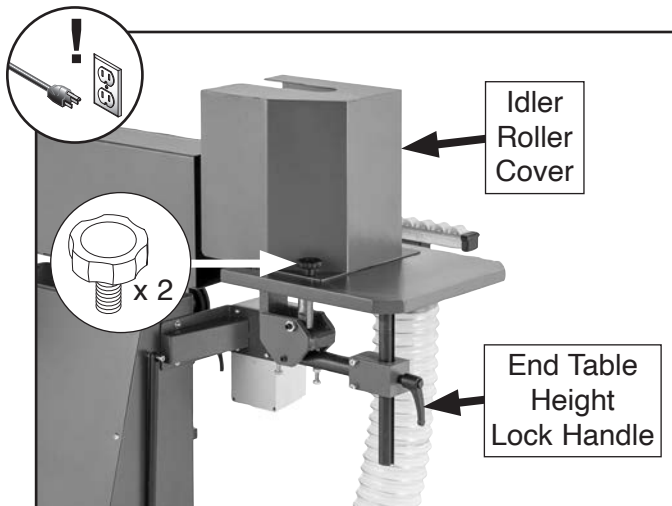

Figure 35. Location of idler roller cover knob bolts and end table height lock handle.
2. Remove (2) knobs bolts shown in **Figure 35** to remove idler roller cover.
3. While holding end table, loosen end table height lock handle (see **Figure 35**), and lower end table all the way to move it out of the way for the following steps.